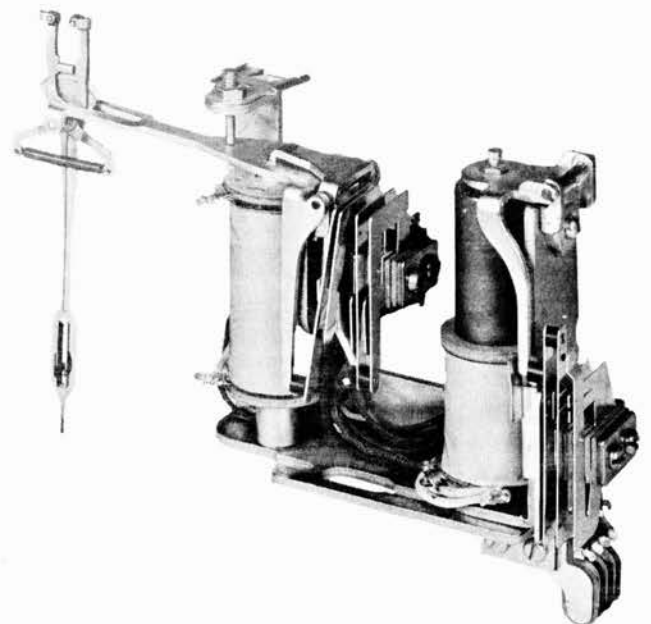

Figure 25. Lineswitch.
- b. While the master switch is rotating, manually operate the armature of the line relay of a lineswitch. The lineswitch (figure 25) should not plunge into the bank, since the positive battery which operates the pull-down coils of the lineswitch is removed while the master switch rotates.